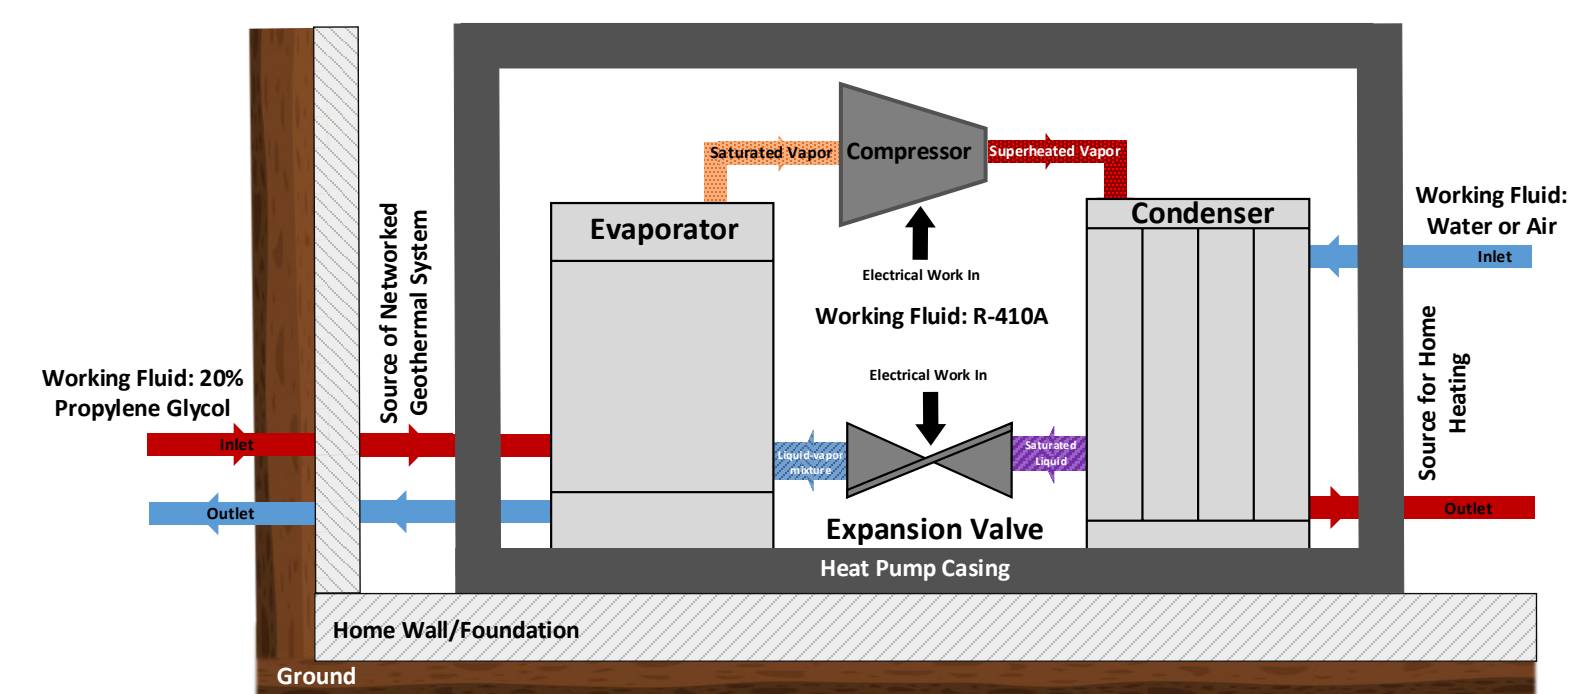

Figure 2. Heat Pump Diagram: Heating Cycle
- Heat pumps fueled by the consistent subsurface temperatures of the earth, shown in Figure 2.